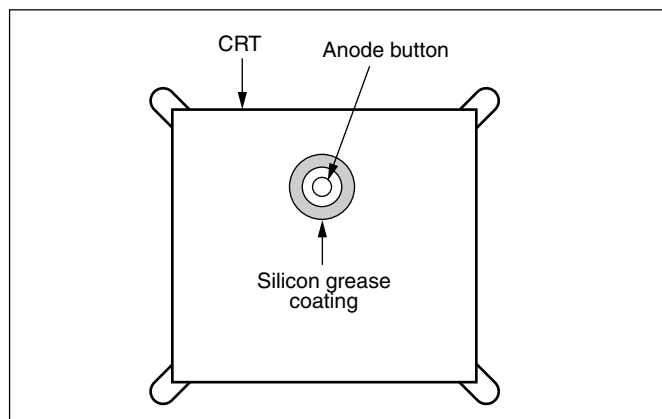

Fig. 5
- Subsequent to replacement of the CRT and HV transformer or repair of the anode cap, etc. by dismantling them, be sure to coat silicon grease for electrical insulation as shown in Fig. 5.
- Wipe around the anode button with clean and dry cloth. (Fig. 5)